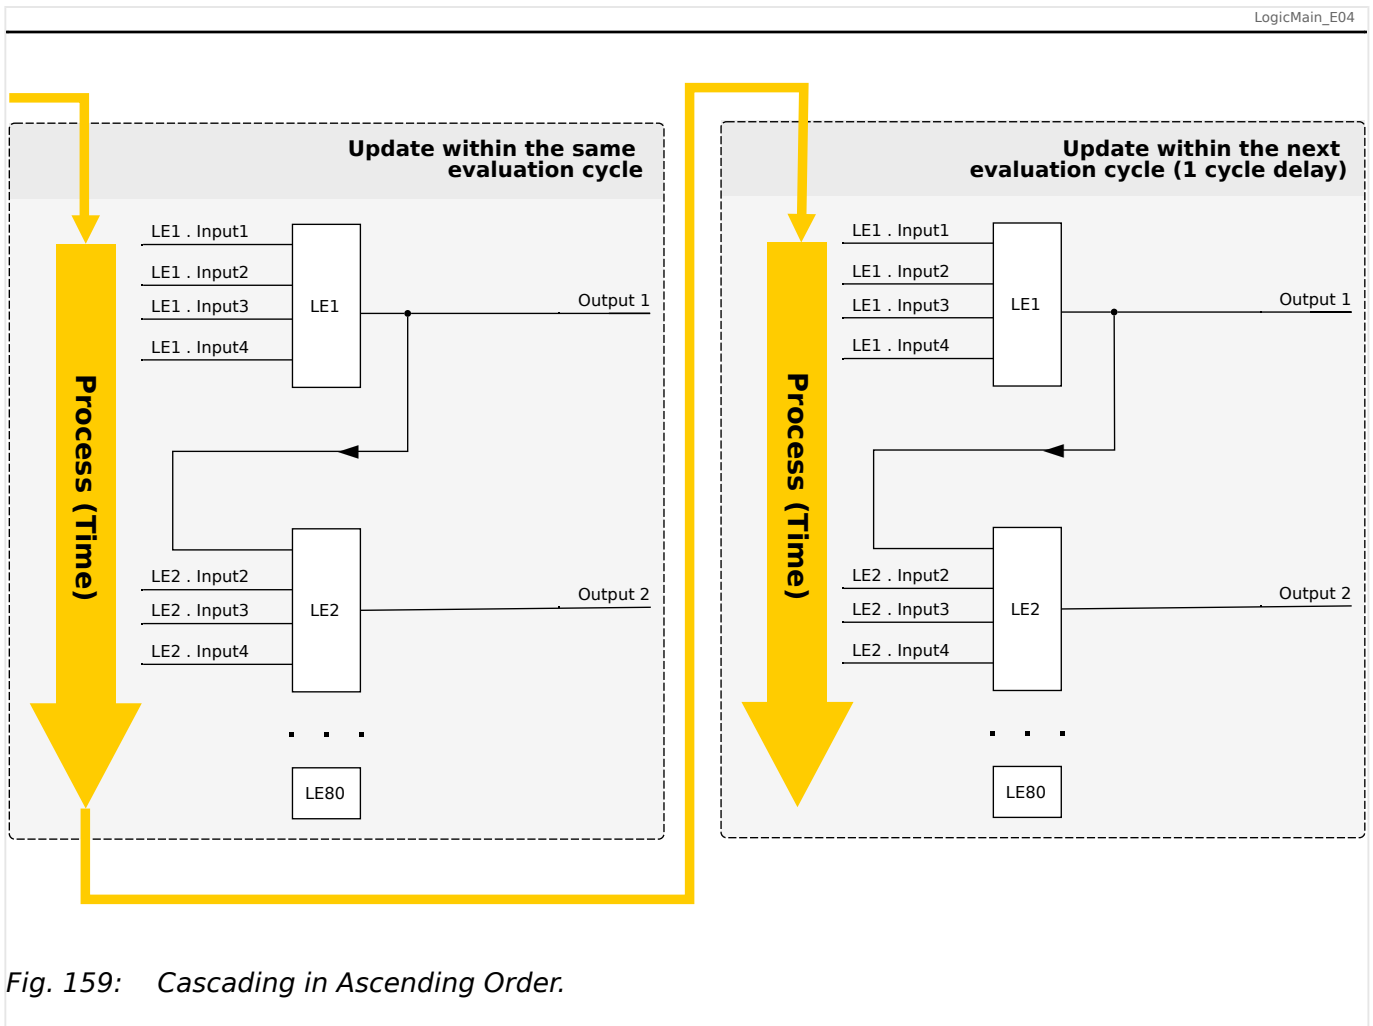
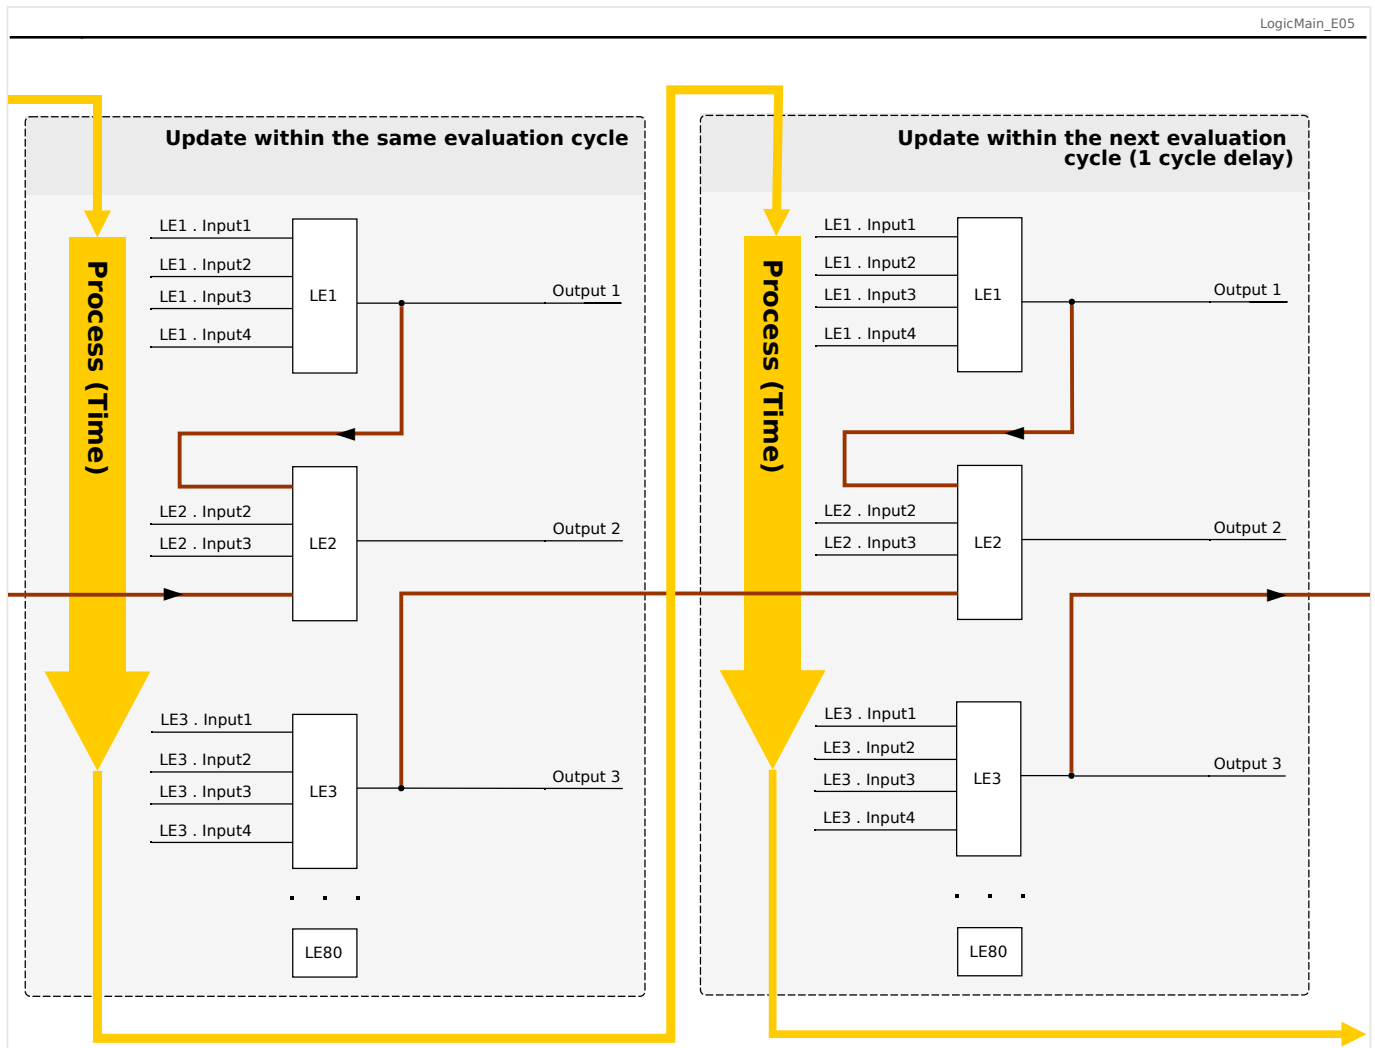

Fig. 159: Cascading in Ascending Order.
Fig. 160: Cascading in Descending Order.
- **Ascending** sequence means that some output is fed into the input of a logic equation with **higher** number. For instance, diagram  Fig. 159 below shows an example where the result of Logic Equation LE1 is used as an input of Logic Equation LE2.
- **Descending** sequence means that some output is fed into the input of a logic equation with **lower** number. For instance, diagram  Fig. 160 shows an example where the result of Logic Equation LE3 is used as an input of Logic Equation LE2.
Both ascending and descending sequences may be used and combined one with the other, with no immediate difference. However, due to the evaluation of all equations in ascending order the actual run-time values that are fed in at the input of an equation will have a different “age”, as is shown in  Fig. 159 and  Fig. 160 below.
In the example shown in Fig. 160 above, “Logic Equation 2” uses the output states of two other equations, “Logic Equation 1” and “Logic Equation 3”. The result of “Logic Equation 1” is used in ascending order and has therefore been evaluated within the same process cycle. The result of “Logic Equation 3” is used in descending order and has therefore been evaluated in the previous process cycle.